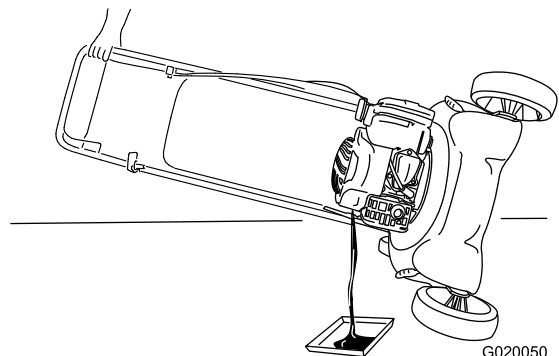

Figure 19
4. Tip the machine onto its side (so that the air filter is up) to drain the used oil from the oil-fill tube (Figure 19).